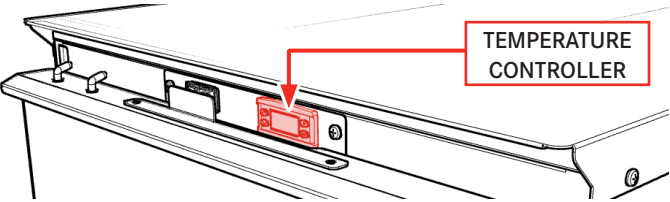

Fig. 8
1. Locate the appropriate temperature controller on the front of unit (Fig. 8).